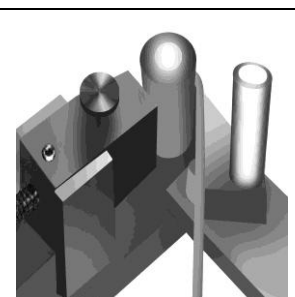

Figure 9
5. Leaving the handle in the left most position, move the material so that the first loop is on the angles side of the vise’s jaw and the edge of the stock is even with the edge of the circle as shown in figure 9.